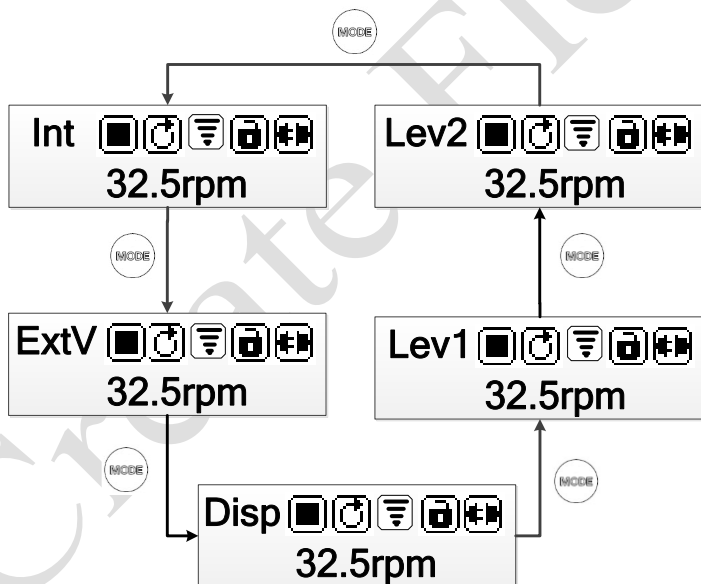

Figure5. Change Working Mode
- Press  key, change the working mode, Figure 5: